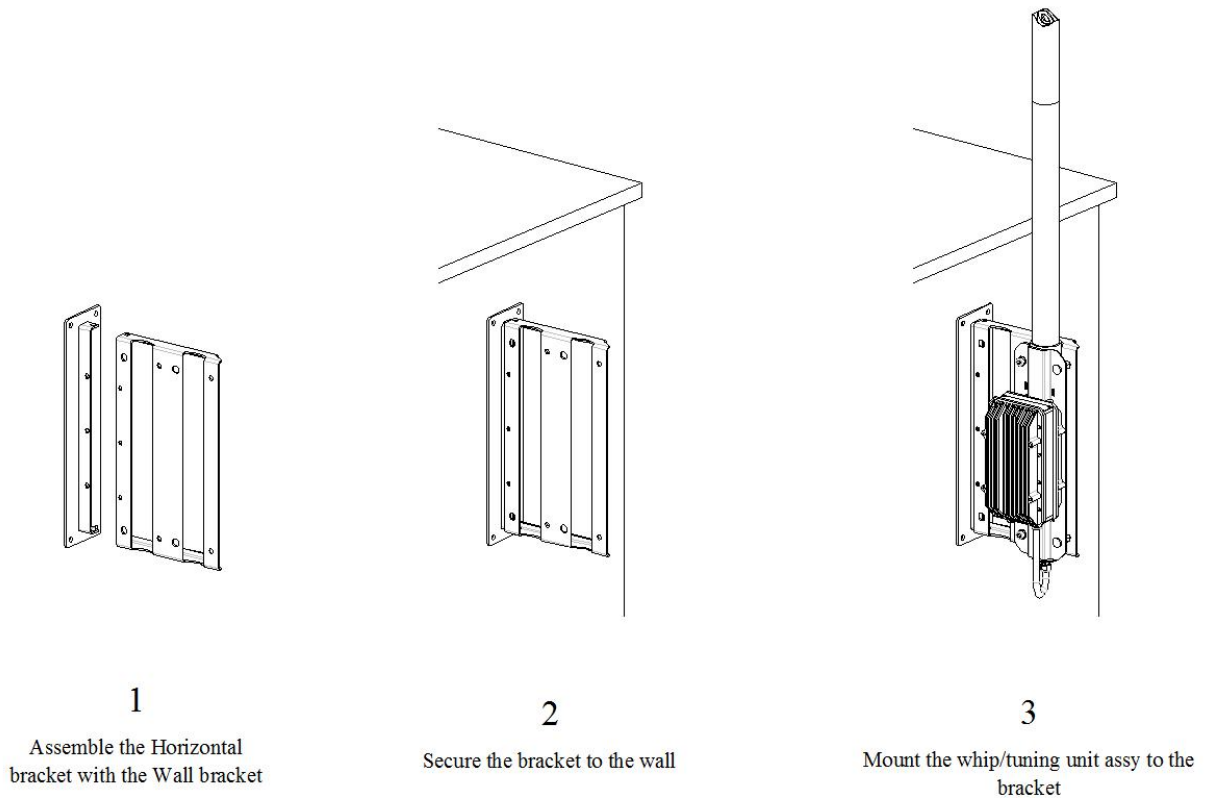

Fig. 10 - Direct Wall Mounting
2. Install as shown in step 1 of Fig. 10 the Horizontal Bracket on top of the pole by means of 4 Special Nuts and 4 screws.
3. Assure as shown in step 2 the of Fig. 10 Whip/Tuning adaptor using the supplied hardware (as shown in the precedent step).